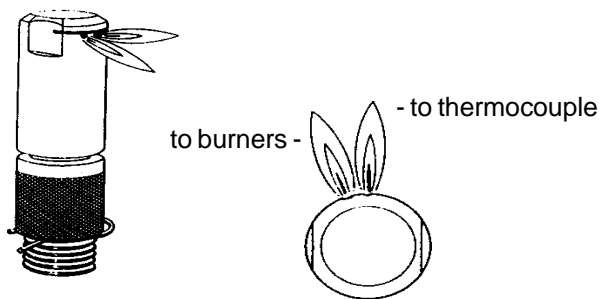

Fig. 4 Characteristic Pilot Flame
Pilot Flame: The pilot flame should burn with a clean sharp blue flame and should resemble Fig.4 below. If the flame is yellow, or if the central button Fig. 2 (P) has to remain depressed for a long time in order to keep the pilot lighted, the pilot may need to be cleaned or the orifice replaced.
The pilot flame has two flames, one aimed at the thermocouple and the other aimed at an angle towards the burners (*see pilot flame diagram, Fig. 4, page 13*). It is extremely important that the flame directed on the thermocouple head be aimed right at it, and that the pilot flame be a sharp blue flame. If the pilot assembly has been taken apart for cleaning, the pilot flame may no longer be properly aimed.